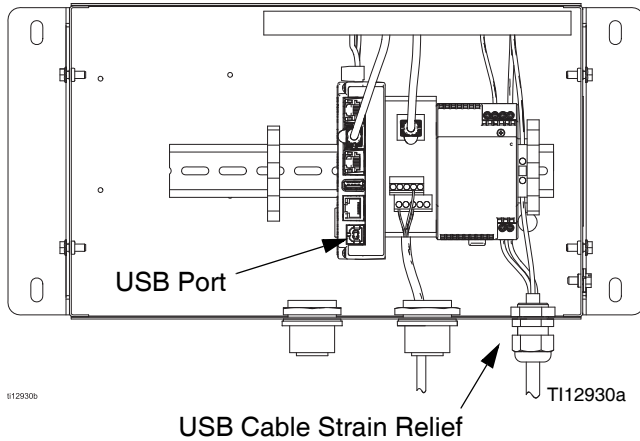

FIG. 13: Gateway Module USB Port
1. Connect the USB cable (34, supplied) between the USB port on the Gateway module and a USB port on your PC. See FIG. 13.